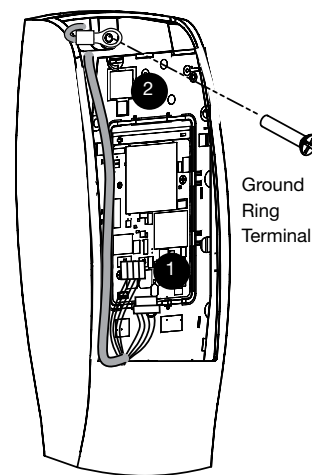

Fig. 13A
1. Route the raceway connectors over the top of the controller assembly and plug into the front of the circuit board (side that faces out when mounted (J7, J4; Fig. 13A).